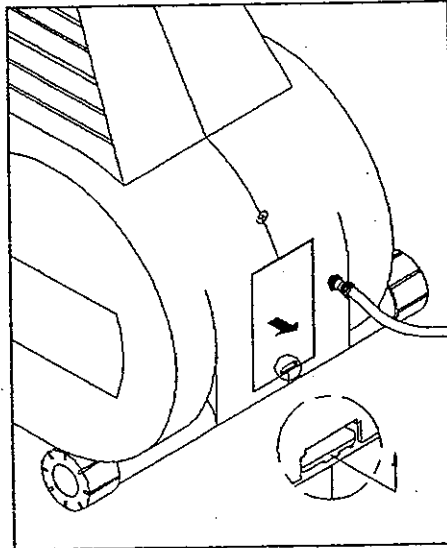

Fig.1
1. Open the back cover (see Fig. 1). The VR can be found on the right hand side of the drive board.